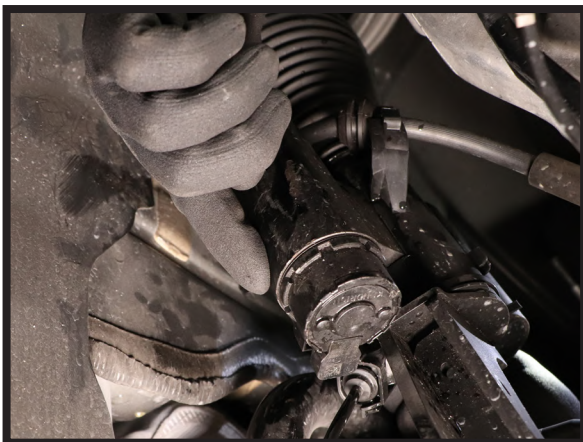

FIGURE 13
11. DISCONNECT COIL WIRES FROM LOWER SHOCK. (FIGURES 13, 14)